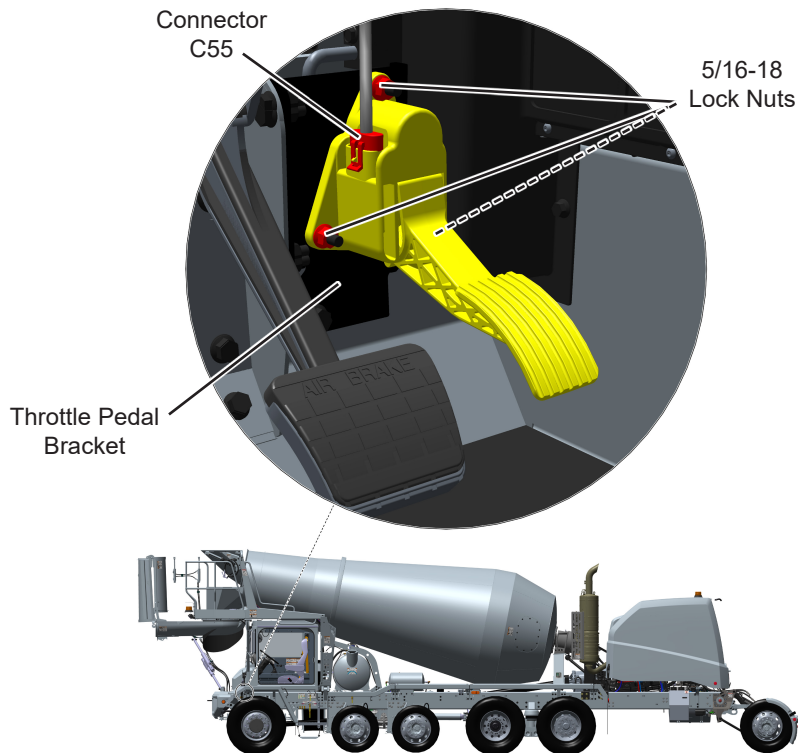

Figure 2
4. Disconnect connector C55 from throttle pedal. See Figure 2.
5. Loosen and remove lock nuts from screws securing throttle pedal to throttle pedal bracket. See Figure 2.